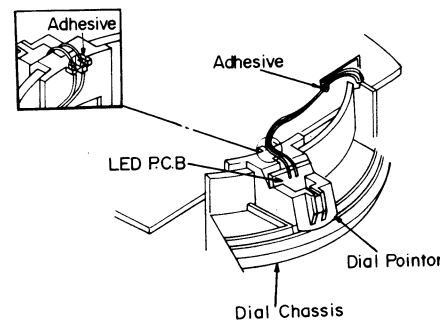

Fig. 21
5. Secure the lead wires on the LED board with the adhesive (see Fig. 21.)